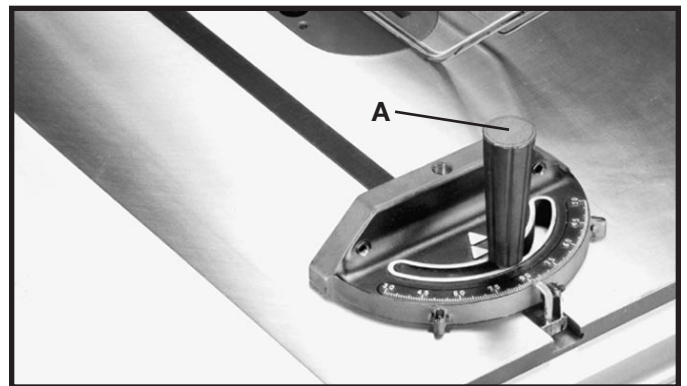

Fig. 72
The miter gage handle can be used to store the two hex wrenches (1/8", 5/64") supplied with the machine. Remove the top cap (A) Fig. 72, of the miter gage handle for the hex wrench storage compartment.